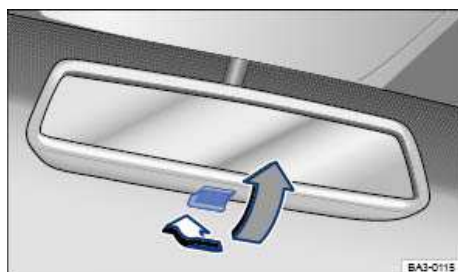

Fig. 108 Manually adjustable inside mirror.
- To adjust to non-glare visibility, move the lever so that it points backward → fig. 108.